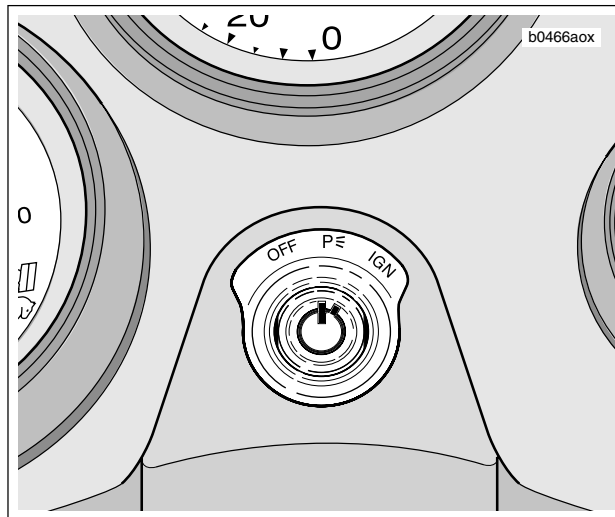

Figure 4-4. Ignition Key Switch
- See Figure 4-4. All references to “Key ON” or “Ignition Switch ON” require that the ignition key be in the IGN position and the engine stop switch be set to RUN.